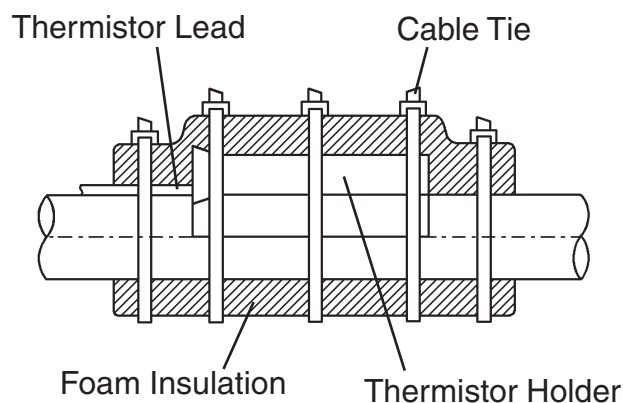

Fig. 1
- 5) Remove the plastic cable ties, foam insulation, thermistor holder, and thermistor. See Fig. 1.